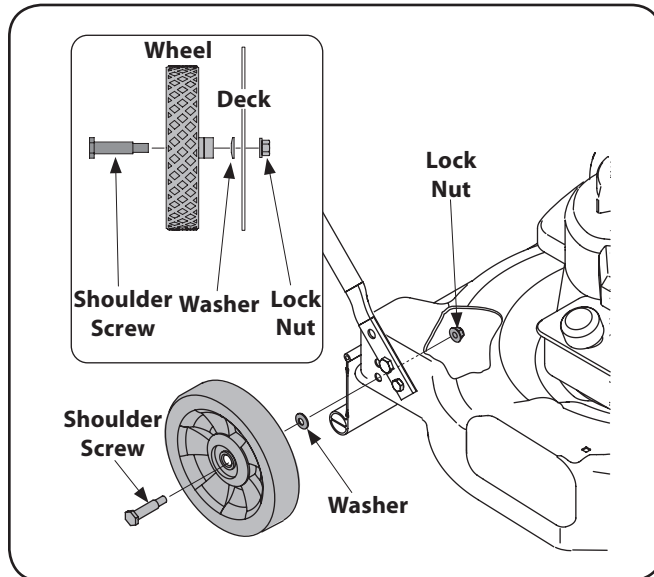

Figure 3-4
1. Secure each wheel to the deck as shown in Fig. 3-4.